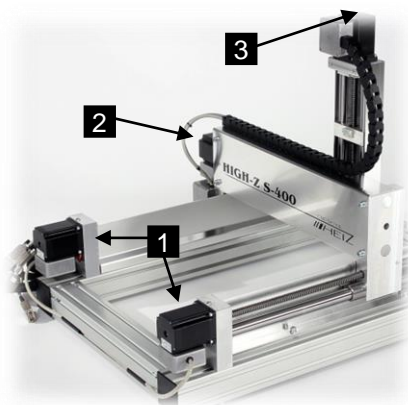

Figure 12: stepper motors
- Connector X1 stepping motor of the X-axis (Fig. 12/1).
- Connector X2 stepping motor of the X-axis (Fig. 12/1).
- Plug Y stepping motor of the Y-axis (Fig. 12/2).
- Plug-Z stepper motor Z-axis (Fig. 12/3).